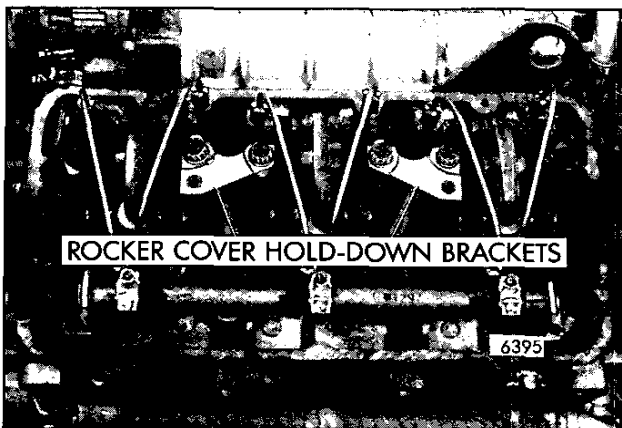

Fig. 12 – Rocker Cover Hold-Down Brackets Mounted on Rocker Arm Shaft Brackets
5. Insert the rocker arm bracket bolts through the rocker cover hold-down bracket (if used) and through the brackets and the shaft (Fig. 12).